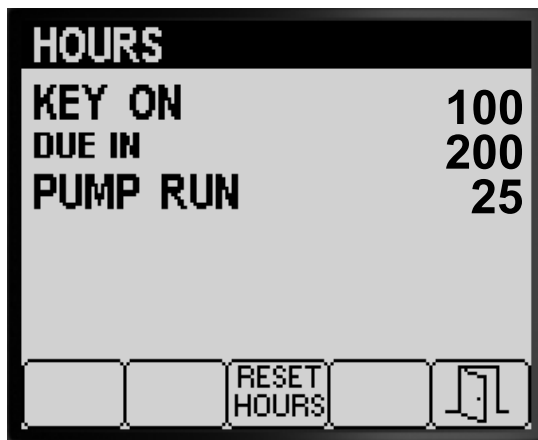

Figure 81
- Use the counter information (Figure 81) displayed on the screen to determine the following:
4. To reset the hours for all counter information, press button 3 (Figure 81).
5. Press button 5 to exit the HOURS screen, and return to the SERVICE screen (Figure 81).